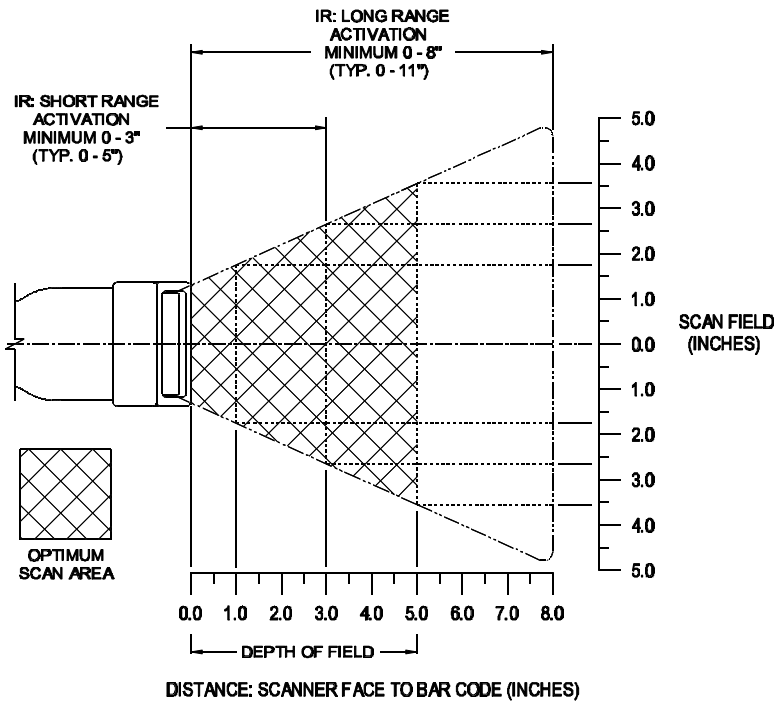

Figure 6
The scanning process is initiated by an infrared (IR) device that is below the output window. The signal extends approximately eight (8) inches beyond the output window in long range mode and in short range mode, it extends approximately three (3) inches (Refer to Figure 6). The IR device remains active as long as power is applied to the unit.